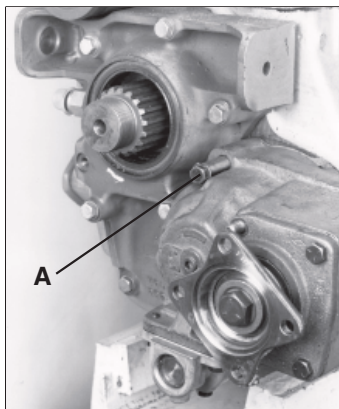

Fig. 11
Make sure the 500365-26 washer is placed first on the 378431-26 Hex Head Screw and then the 379164 cone lock sleeve is placed on. Now you can install the capscrew assembly (A) in the top left bolt hole. (Fig. 11)